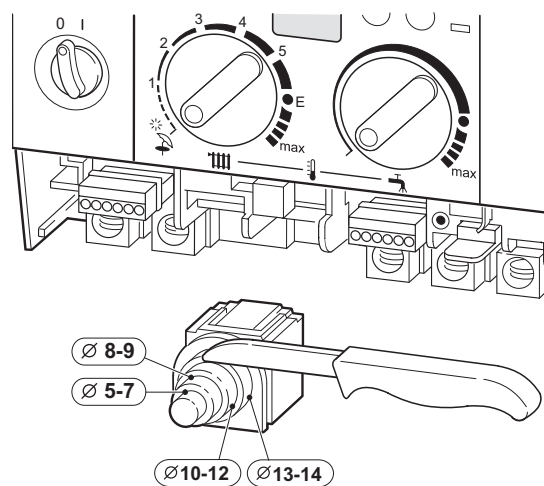

Fig. 29
- ▶ To maintain the splash-proof (IP) design: cut the cable grommet hole size to match the diameter of the cable, see fig. 29.